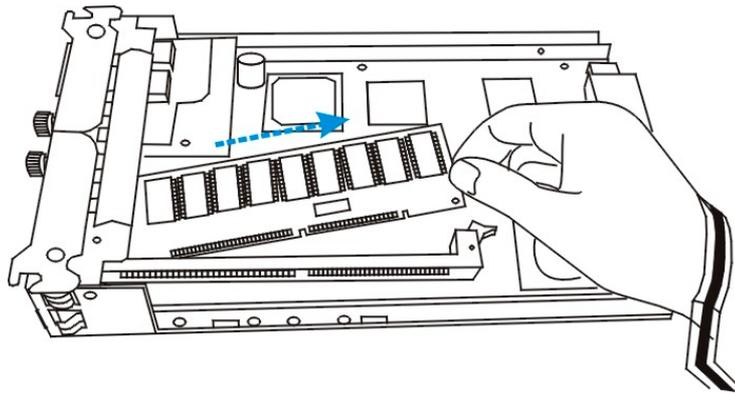

Figure 2-3: Extract the DIMM Module
Step 3. Pull the DIMM module out of the controller module. To do this, elevate the rear end of the DIMM module and gently pull it out of the controller module. (See *Figure 2-3*).